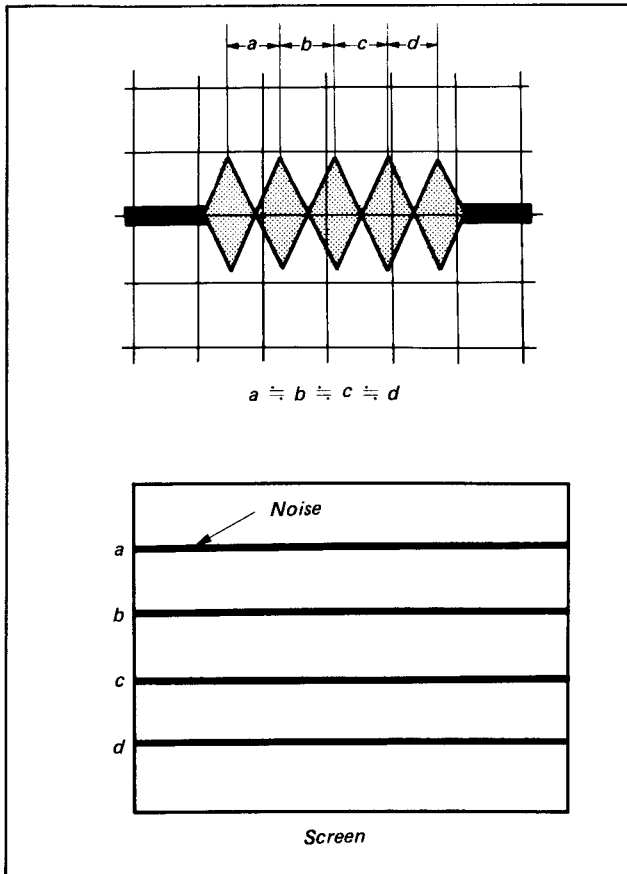

Fig. 1-82
- 3) Set up the REV mode and check that the waveform noise pitches are uniform. If not, adjust as follows. (See Fig. 1-82.)